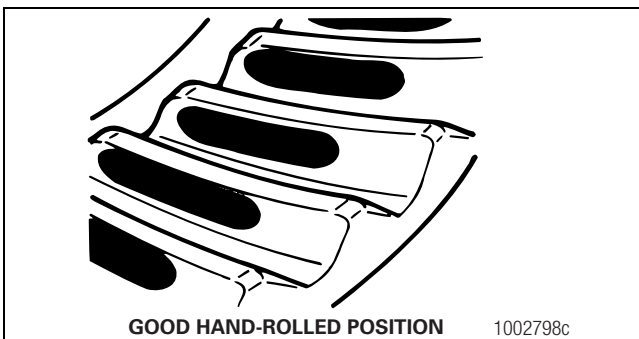
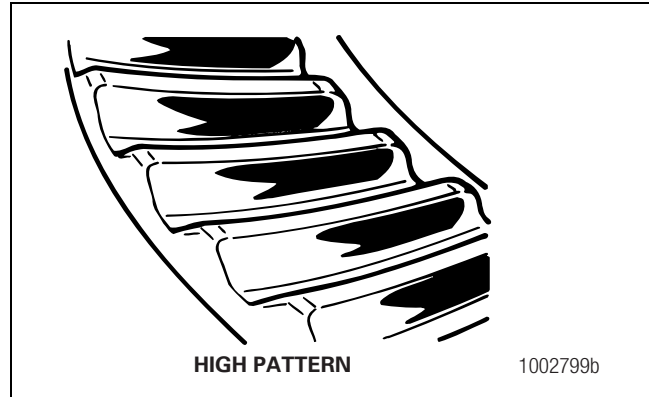
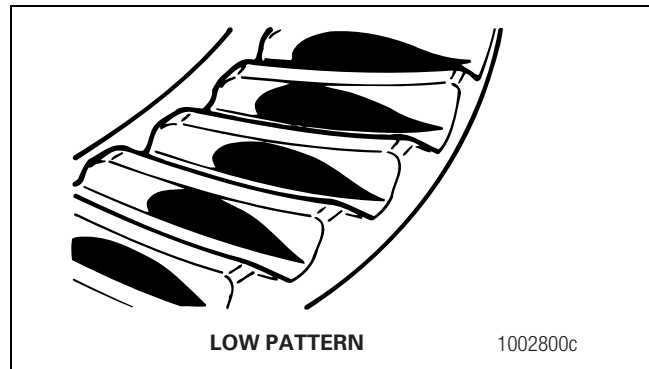
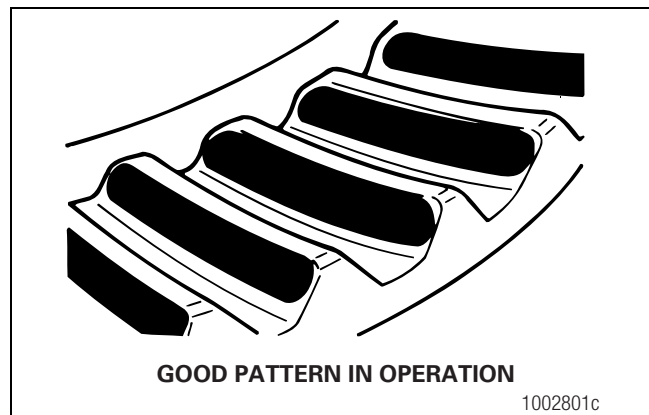

Figure 5.51
Figure 5.52
Figure 5.53
Figure 5.54
4. Look at the contact patterns on the ring gear teeth. Compare the patterns to Figure 5.51, Figure 5.52 and Figure 5.53. The location of a good hand-rolled contact pattern for a new gear set is toward the toe of the gear tooth and in the center between the top and bottom of the tooth. When the carrier is operated, a good pattern will extend approximately the full length of the gear tooth. The top of the pattern will be near the top of the gear tooth. Figure 5.54.